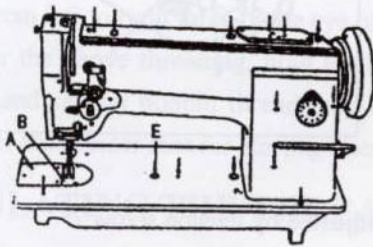

Fig.1
#### 3) Oiling (Fig.1, 2, 3, 4)
1) Turn the balance wheel to lift needle bar 1 to the upper end of its stroke. Place the feed dog at this side in its travel turning the balance wheel, and open the slide plate A. (Fig.1)